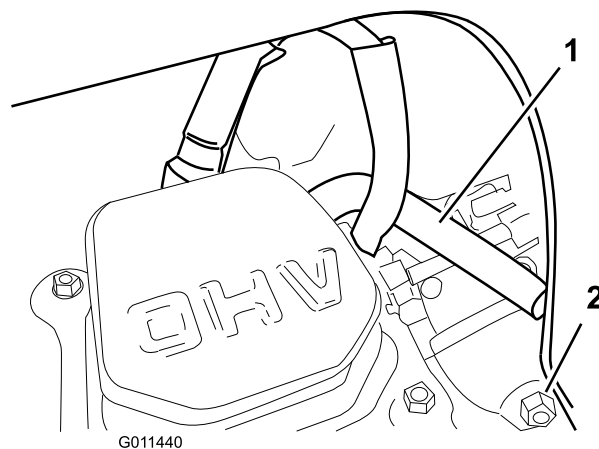

Figure 36
Note: Ensure that the breather tube is routed above the spark plug wire as shown in Figure 36.
6. Drain the fuel in the carburetor through the carburetor drain bolt (Figure 36) into an approved gasoline container.